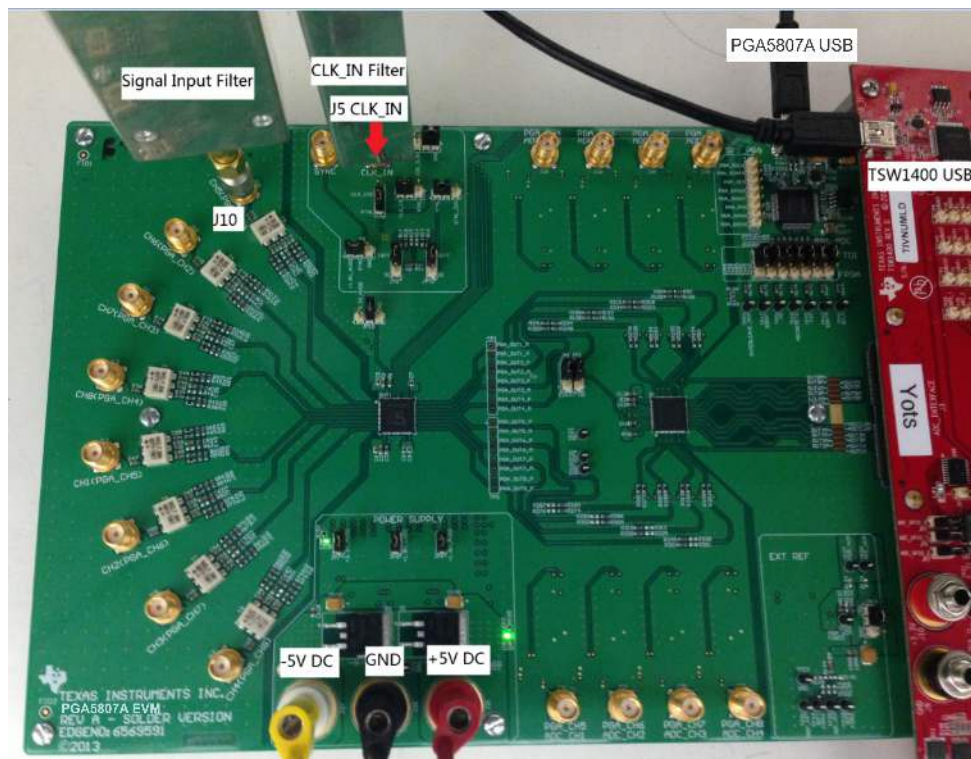

Figure 43. PGA5807A + ADS5296A Gain Test Setup
1. Setup the EVM as shown in Figure 43 by performing the following steps: